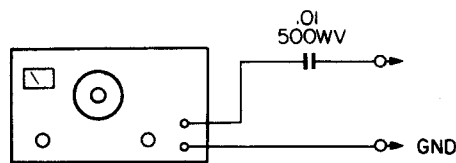

Fig. 15
- As shown in Fig. 15 SSG must be used with a ceramic capacitor of $0.01\mu F$ (500WV).